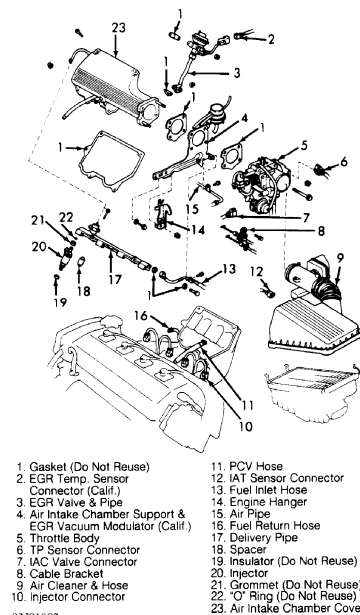

Fig. 4: Locating Fuel Components (1.8L)
4) Remove fuel rail mounting spacers and injector insulators from intake manifold. Pull injectors from fuel rail. Remove "O" rings and grommets from injectors. See Fig. 4.